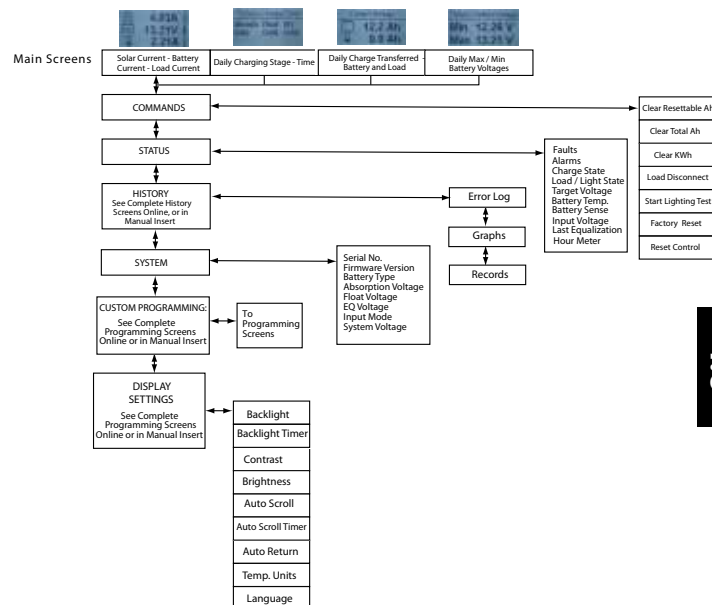

Figure 4-6. Simplified Meter Map.
- Extensive settings adjustment and information as shown partially in Figure 4-6 below.
The display setting options, as seen in Figure 4-6, are adjustable by using the directional keys to locate and edit a desired setting or variable.